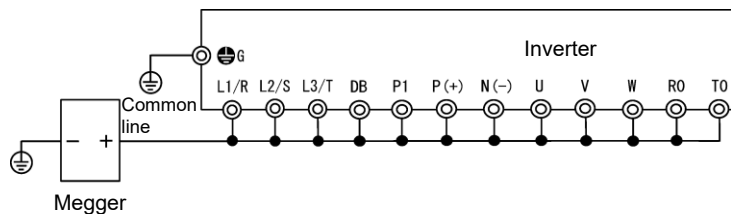

Fig. 7.6-1 Main circuit terminal connection for Megger test
- 3) Connect the main circuit terminals with the common wire as shown in Fig. 7.6-1. (terminals [R0], [T0] are only for FRN0088/0115E3□-2G and FRN0059/0072E3□-4G)